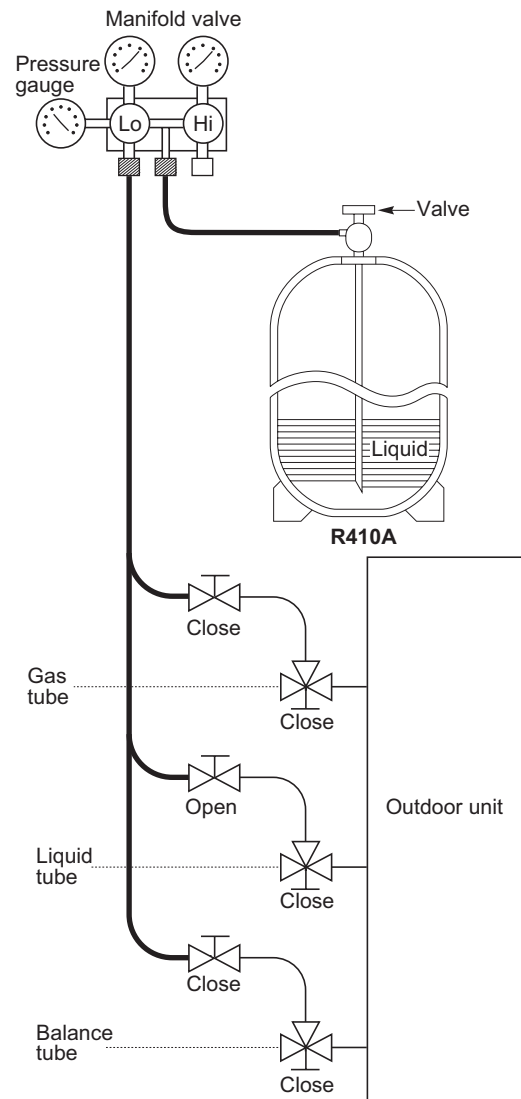

Fig. 2-257
- Charging additional refrigerant (calculated from the liquid tube length as shown in Section “1-8. Additional Refrigerant Charge”) using the liquid tube service valve. (Fig. 2-257)